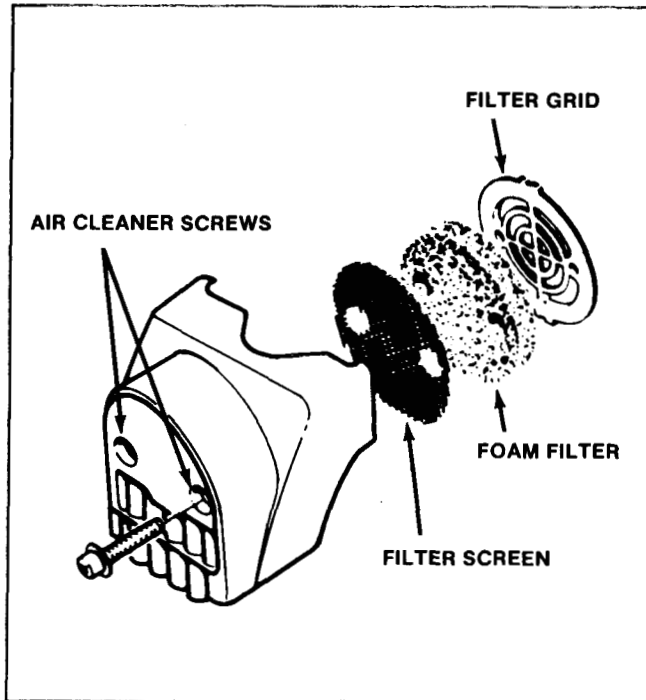

Figure 1
See Figure 1.
6. Reinstall the air cleaner components as shown in Figure 1. Note that the flat side of the filter grid faces the foam filter.
6. Reinstall the muffler cover as shown in Figure 1.